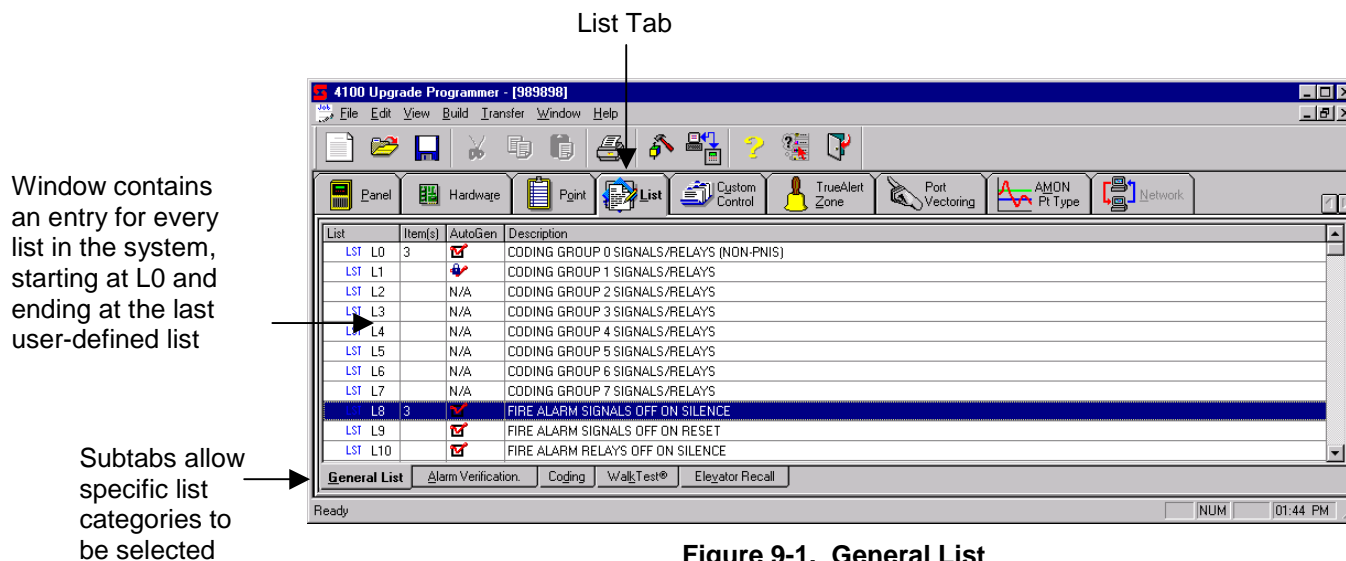

Figure 9-1. General List
Select the **List Tab** to display the List Tab window, shown in Figure 9-1. By default when you select the List Tab, the **General List** subtab, located on the bottom right of the window, is selected. This window contains an entry for every list in the system.
1. Open the List Window by selecting the List Tab at the top of the Programmer. See Figure 9-1 for the location of this tab.